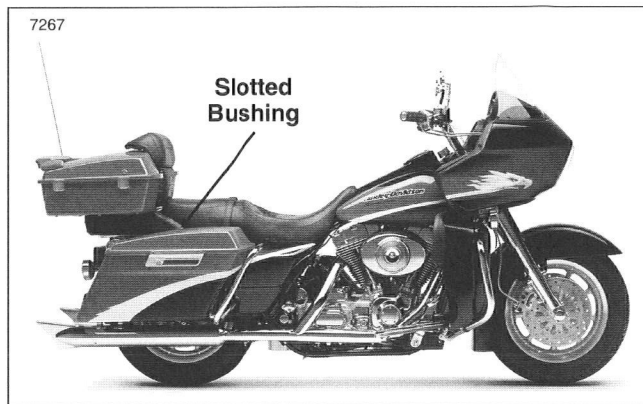

Figure 25. Slotted Bushings
2. See Figure 25. Locate the slotted bushing for the TOUR-PAK rack just to the rear and both sides of the seat.